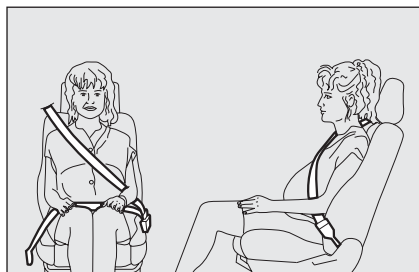

fig. 4
Of course they must position the lower part of the belt very low down so that it passes under the abdomen, see **fig. 4**.
*The belt must not be twisted. The upper part must cross the shoulder and the chest diagonally. The lower part must adhere to the hips **fig. 4** not to the abdomen. Do not use devices (clips, etc.) to hold the seat belt away from your body.*